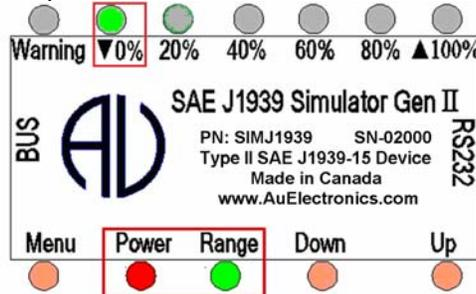

Figure 3-3
- When control step value equals to 0%, the **▼ 0% LED** blinks. as shown in Figure 3-3